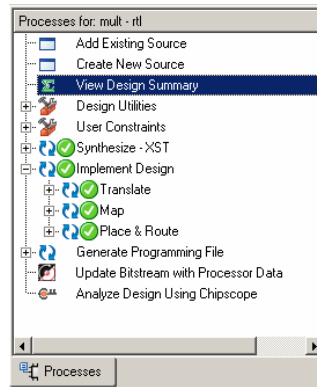

Figure 4.2 – View Design Summary
- ④ Read some of the messages in the message window located across the bottom of the Project Navigator window.
- ⑤ When implementation is complete, double click on View Design Summary in the processes window(Figure 4.2).